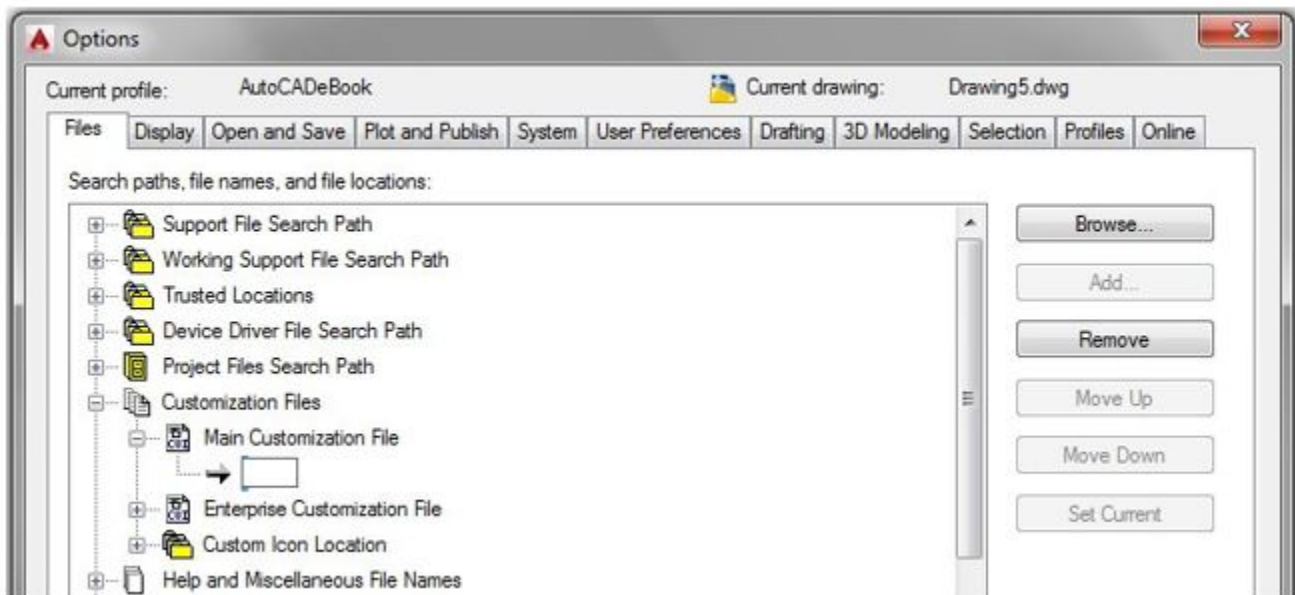

Figure Step 10A
Step 9 will remove the customization file and show a blank box as shown in the figure. Click the Browse button to open the Select a file dialogue box. (Figure Step 10A and 10B)